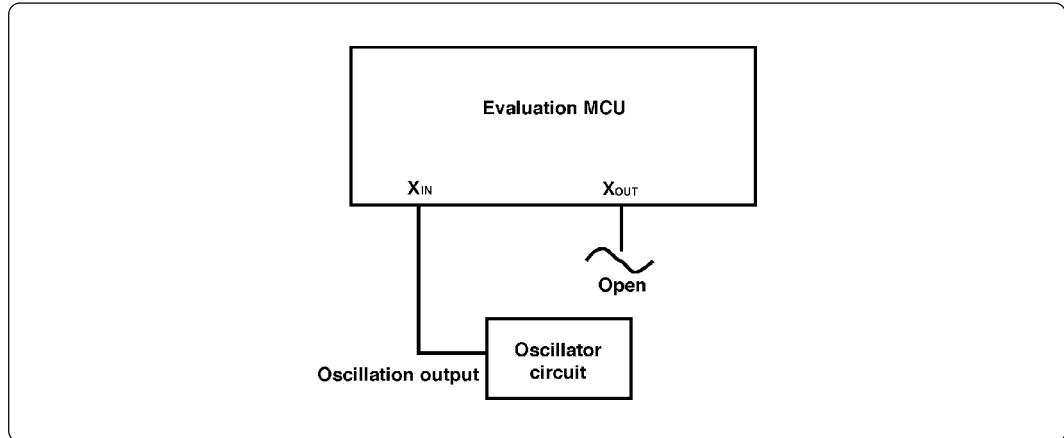

Figure 3.2 External oscillator circuit
- To operate the emulation pod with an external clock, construct the oscillator circuit as shown in Figure 3.2 in the target system and input the oscillator output at 50% duty (within the operating range of the evaluation MCU) into pin X_{IN} . And pin X_{OUT} should be open.